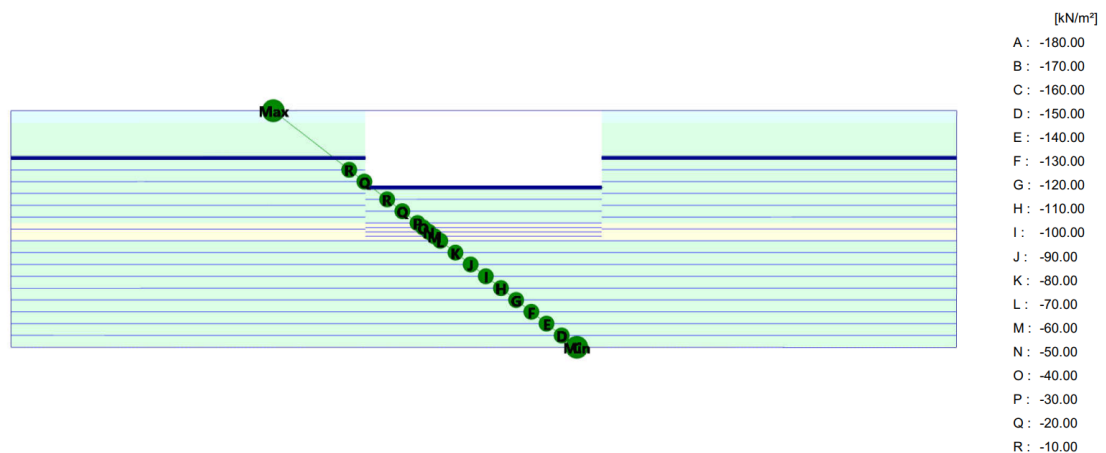

Figure 2-7: Preview of the steady state pore pressures in Phase_4 in a cross section
- 26  Display the contour lines for steady pore pressure distribution. Make sure that the **Legend > View** option is checked. The steady state pore pressure distribution is displayed in Figure 2-7 \(p. 53\). Scroll the wheel button of the mouse to zoom in or out to get a better view.